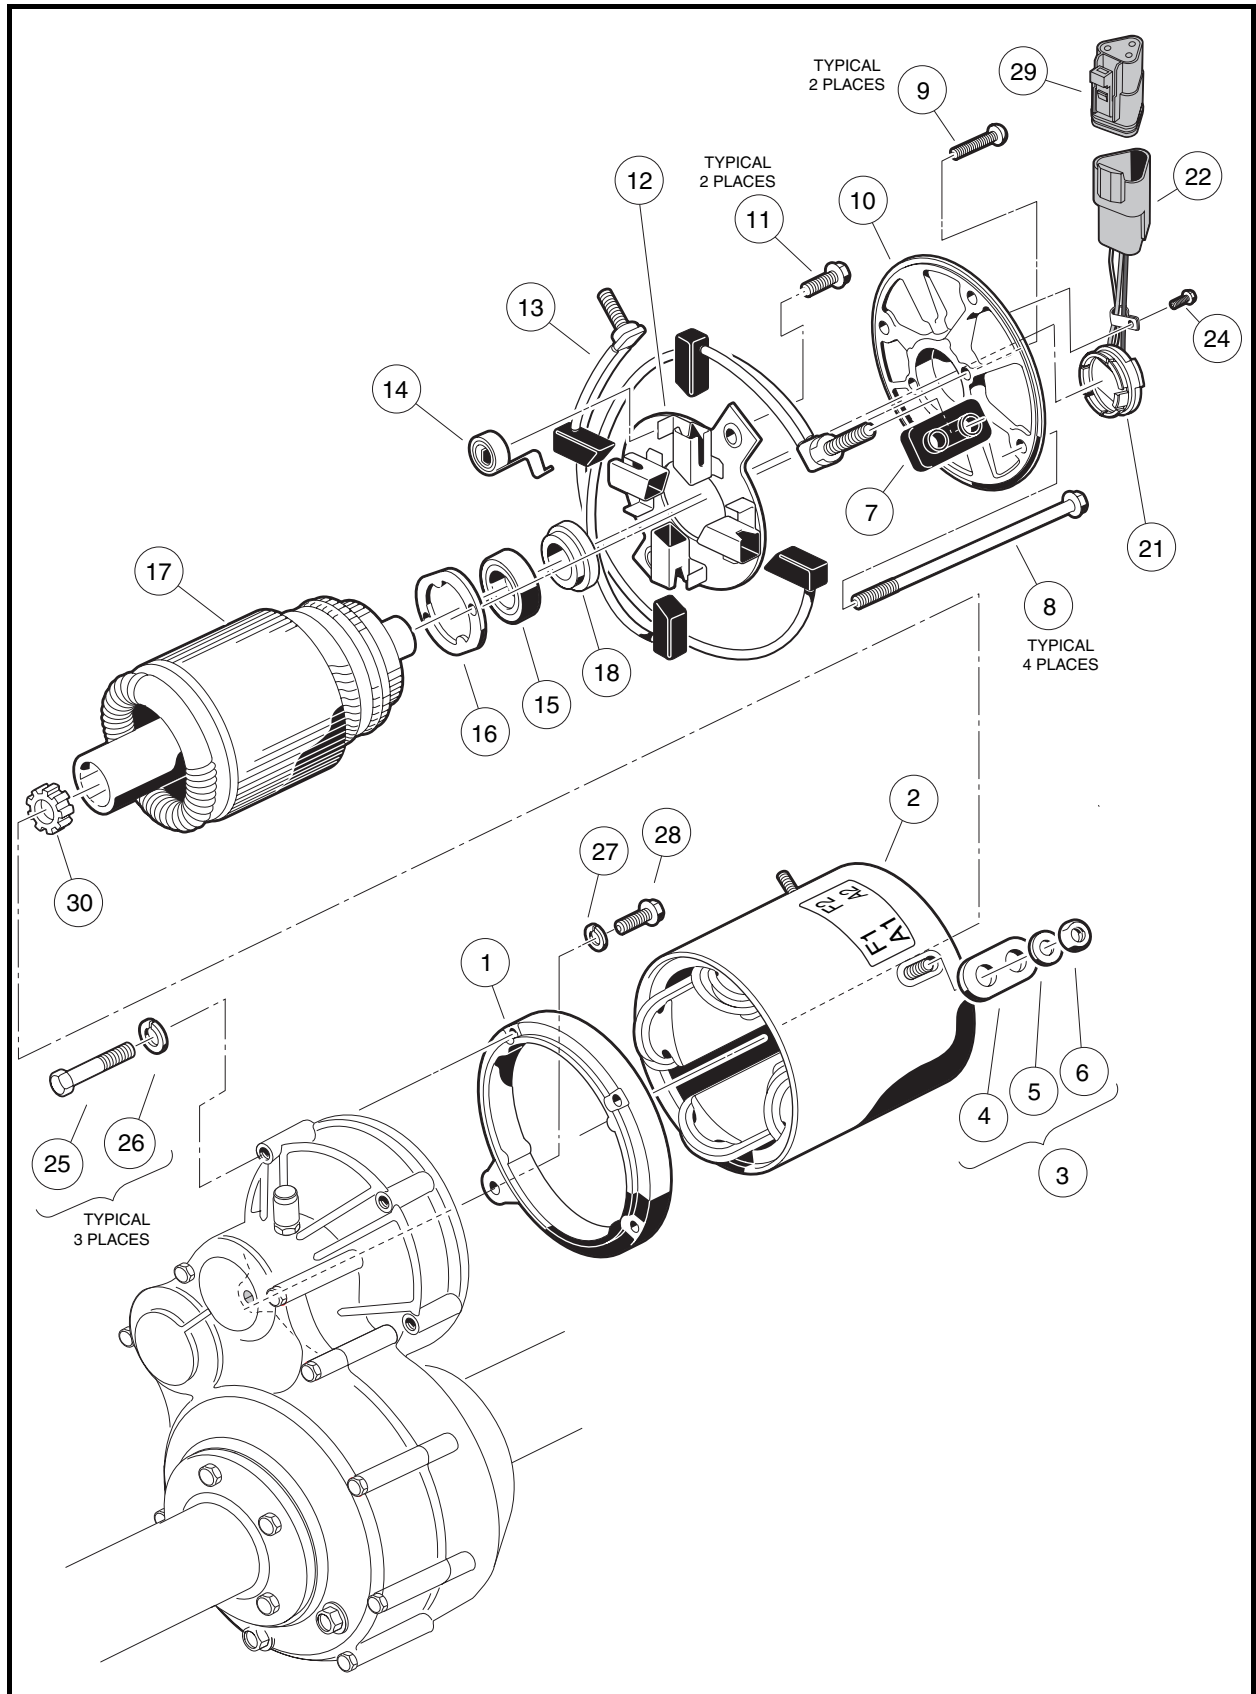

Figure 22a-9 Motor – Model 5BC59JBS6365
Inspect the speed sensor magnet (18) for rust, wear, and cracks (**Figure 22a-9, Page 22a-8**). Replace the magnet if necessary.
1. To remove the speed sensor magnet (18), remove the motor bearing (**Figure 22a-9, Page 22a-8**). See **Bearing Removal on page 22a-7**.